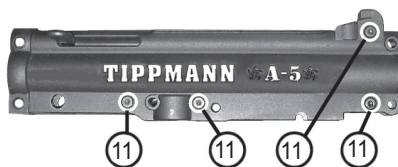

Figure 15: Remove remaining screws to separate receiver halves.
- 2. Remove four upper Receiver screws (#11, Figure 15).
- 3. Lift the left upper Receiver half (10) from the right upper Receiver half (1).
- 6. Install four (three on Response Trigger markers) Receiver Screws (#11, Figure 15). Tighten the Screws just enough to hold both halves flush, yet loose enough to allow you to insert the Barrel Adapter assembly.
8. Insert the Front Sight, with its slot facing the rear of the marker, into the top front of the Receiver. Insert the Front Sight screw (11) to hold in place.
9. Install the Front Grip to the upper Receiver. Secure with lower Screw (11) and the Screw (52) and Washer (51) inside the bottom of the grip.
10. Make sure all Receiver Screws (11) are tight (do not overtighten and strip threads).